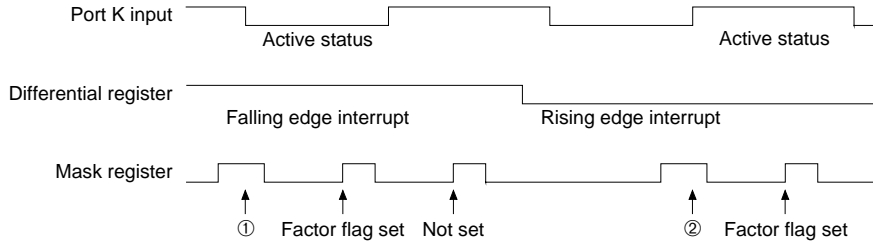

Fig. 4.4.4 Input interrupt timing
When an interrupt is triggered at the falling edge of an input terminal, a factor flag is set with the timing of ① shown in Figure 4.4.4. However, when clearing the content of the mask register with the input terminal kept in the Low status and then setting it, the factor flag of the input interrupt is again set at the timing that has been set.
When an interrupt is triggered at the rising edge of the input terminal, a factor flag will be set at the timing of ② shown in Figure 4.4.4. In this case, when the mask registers cleared, then set, you should set the mask register, when the input terminal is in the Low status. In addition, when the mask register = "1" and the content of the differential register is rewritten in the input terminal active status, an input interrupt factor flag may be set. Thus, you should rewrite the content of the differential register in the mask register = "0" status.
- (4) Reading of interrupt factor flags is available at EI, but be careful in the following cases.